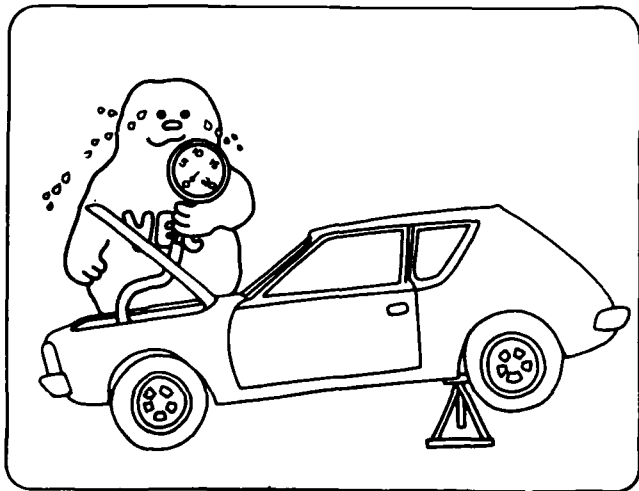

Figure 9-13
3. Figure 9-13 shows an operational test on a vehicle with a speed controlled spark system. List the basic steps necessary to perform this test.